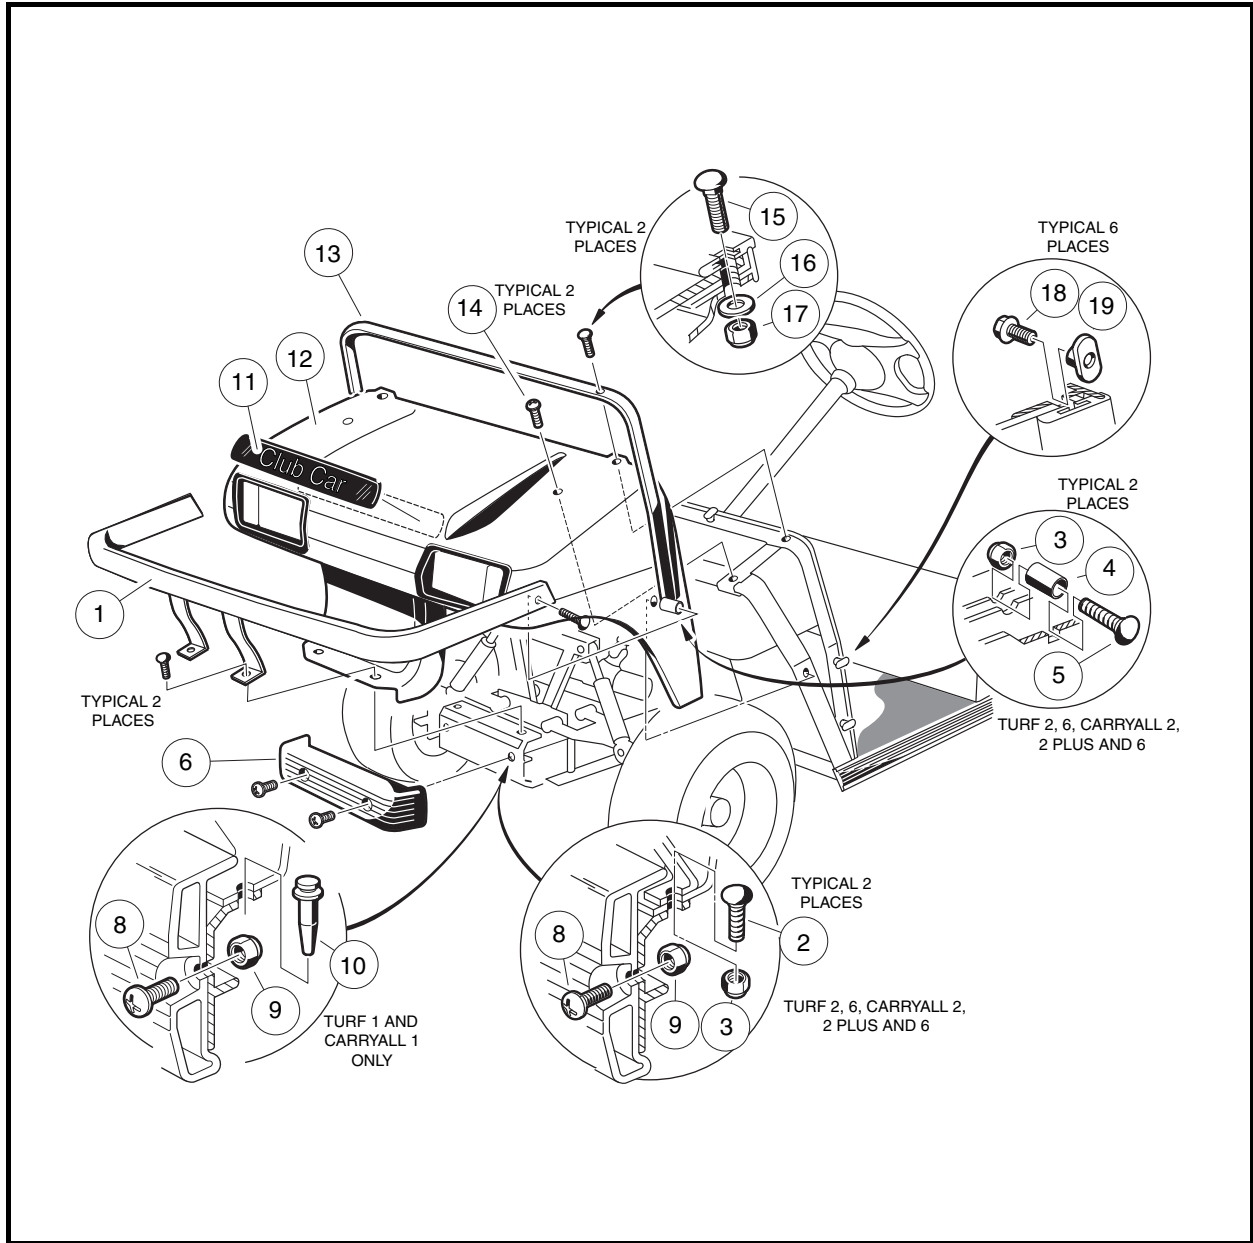

Figure 4-1 Front Body Assembly
1. Remove screws (8) and lock nuts (9) and lift front bumper (6) from vehicle frame (**Figure 4-1, Page 4-5**).
1. Install front body (12) under trim (13), align holes and finger-tighten screws (14) holding front body against frame (**Figure 4-1, Page 4-5**).
2. Install carriage bolts (15), washers (16), and lock nuts (17) onto front body trim. Tighten bolts to 11 ft-lb (14.9 N·m). Tighten screws (14) to 20 in-lb (2.3 N·m). **See following NOTE.**
- 5.1. Install two carriage bolts (2) and lock nuts (3) from the heavy-duty front bumper support braces and install bumper (1). Tighten bolts to 65 in-lb (7.3 N·m) (**Figure 4-1, Page 4-5**).
- 5.2. Install two carriage bolts (5), spacers (4), and lock nuts (3) into heavy-duty bumper mounting positions located on sides of front body (12). Tighten bolts to 65 in-lb (7.3 N·m).
6. **Turf 1 and Carryall 1 vehicles:** Install two push type blind rivets (10) that secure lower front body to frame (**Figure 4-1, Page 4-5**).
7. Install front bumper onto vehicle and install screws (8) and lock nuts (9). Tighten to 65 in-lb (7.3 N·m).